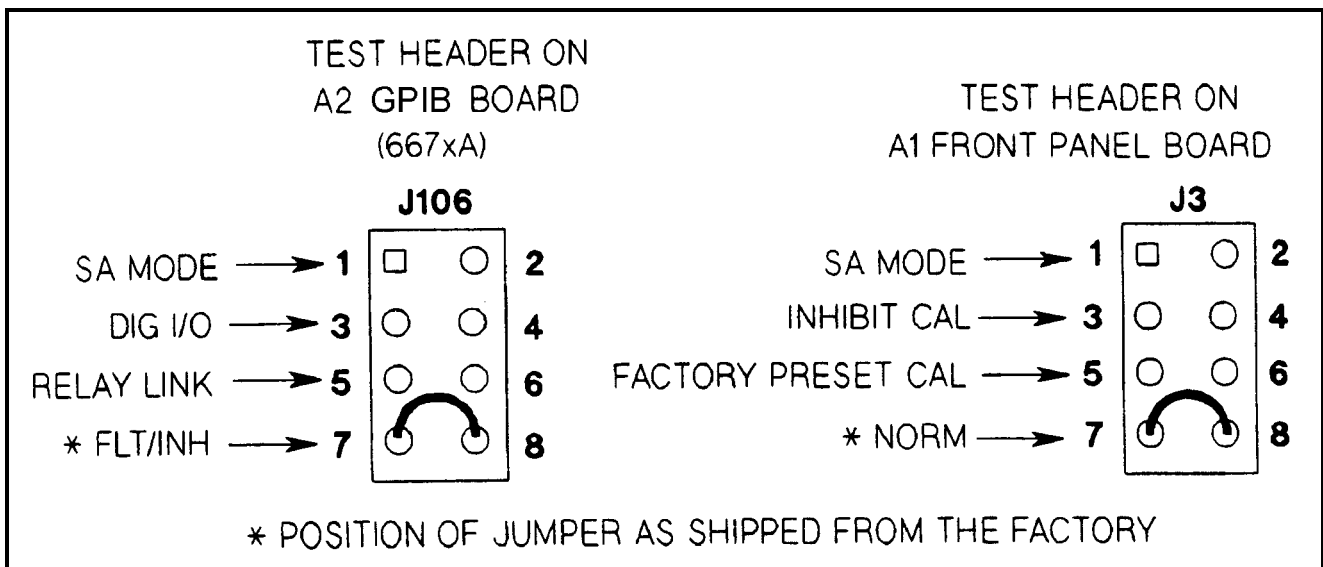

Figure 3-15. Test Header Jumper Positions
The power supply has two test headers as shown in Figure 3-15, each with a jumper that can be moved to different positions for SA testing and for other functions. To gain access to the headers, remove the power supply top cover.
2. Connect SA jumper of connector J106 on A2 GPIB Board (see Figure 3-15).
3.	Connect SA jumper of connector J3 on A1 Front Panel Board (see Figure 3-15).
3. Connect signature analyzer CLOCK, START, STOP, and GROUND inputs and setup as shown in Figure 3-15.
If **CAL DENIED** appears on the display when front panel calibration is attempted (or error code 1 occurs when GPIB calibration is attempted on a Systems Supply), the INHIBIT CAL jumper (see Figure 3-15) is installed. This prevents the power supply calibration from being changed. To calibrate the power supply first move this jumper from the INHIBIT CAL position to the NORM position.
| 2 | Move the jumper in test header J3 on the A1 Front Panel Board from the NORM to the FACTORY PRESET CAL position (see Figure 3-15). |
| 4 | When PWR ON INIT no longer appears, the supply's factory calibration constants have been restored and the password has been changed to 0. There is no longer any password protection. You can now turn off the supply and restore the calibration jumper to the NORM position (see Figure 3-15). |